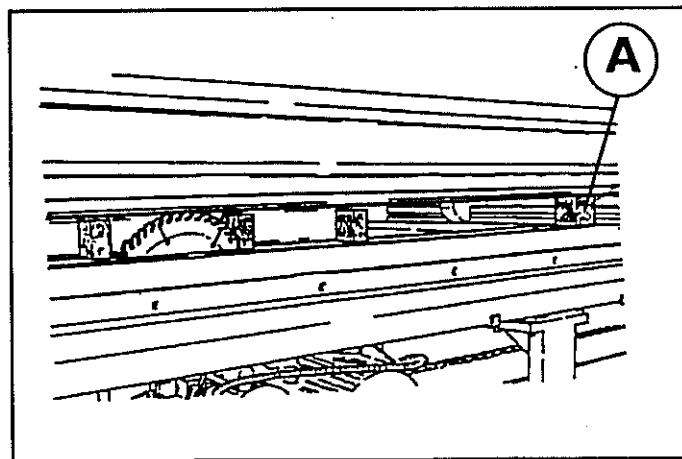

Fig.3.4
- 4- Insert a 85 mm block (A) between the table and the presser, so that the pusher does not come into contact with the pressure beam, fig.3.4.